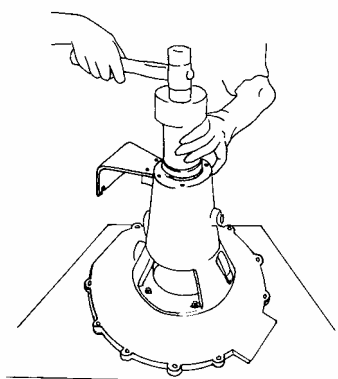

Fig. 12
- 17) Position the support with the rear armature resting on the two surfaces distant one from the other and house the rear bearing (pos. 10) by pressing it into its seat. It is recommended to use a press for this operation but, if one is not available, use a plug made of plastic material and a rubber hammer and insert the piece into the support with caution **fig. 12**. Before fixing the little lids (pos. 11), check the state of the rubber sealing rings (pos. 20) and, if they are not in a good condition, replace them (with every change of bearings it is recommended to replace the sealing rings and o-rings as well (pos. 24).). (**Only CGD series**).